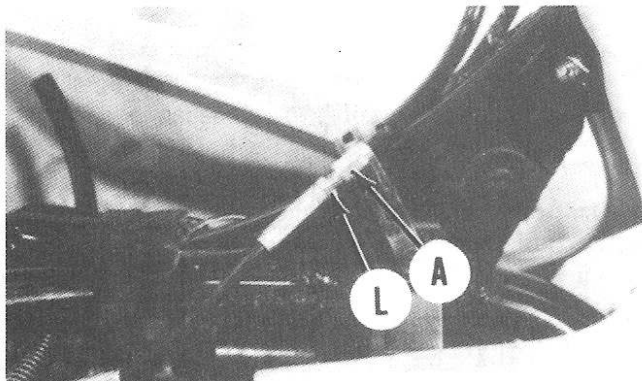
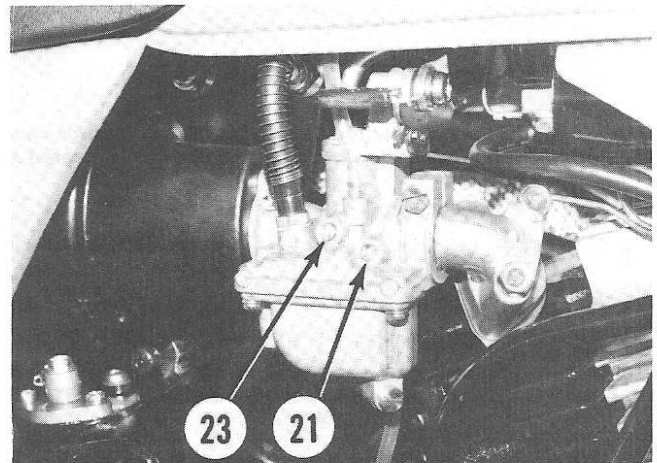

Fig. S1-2—Loosen locknut (L) and turn adjuster (A) as required to adjust throttle cable free play.
Fig. S1-3—View of idle mixture (21) and idle speed (23) adjusting screws. Refer to text for carburetor adjustment procedure.
Before performing carburetor adjustments, throttle cable should be carefully adjusted to provide 0.5-1.0 mm (0.02-0.04 in.) free play at idle position. Cable adjustment is accomplished by first removing seat and fuel tank. Loosen locknut (L—Fig. S1-2) and rotate adjuster (A) as required. Initial setting of idle mixture screw (21—Fig. S1-3) is 1½ turns out from a lightly seated position. Rotating idle mixture screw clockwise will lean the mixture while counterclockwise rotation richens the mixture. Final adjustment should be made with engine at normal operating temperature and running. Adjust idle speed screw (23) so engine idles at 1500-1600 rpm. Adjust idle mixture screw so engine idles smoothly and accelerates cleanly. If necessary, readjust idle speed screw to obtain 1500-1600 rpm idle speed. After adjust-